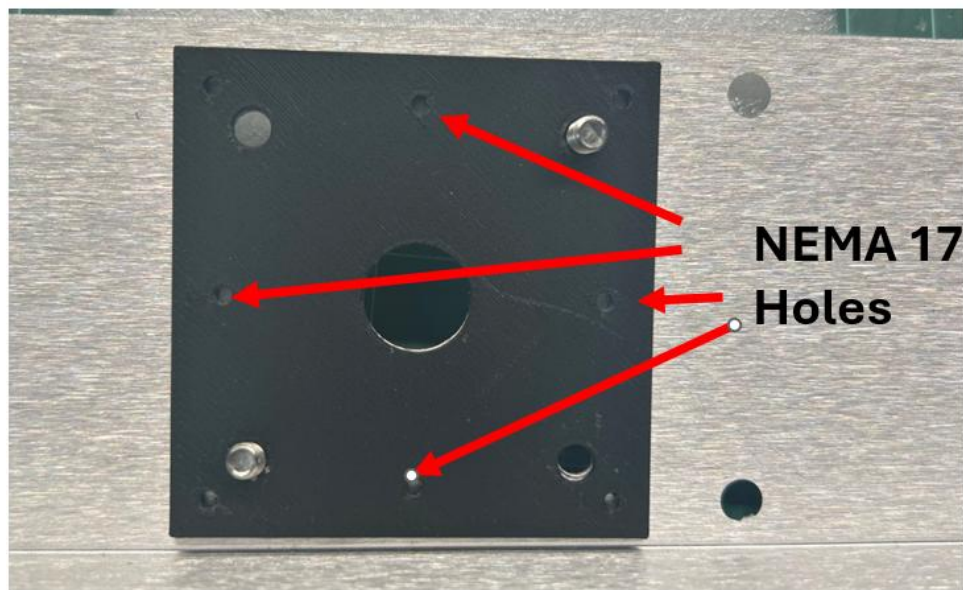
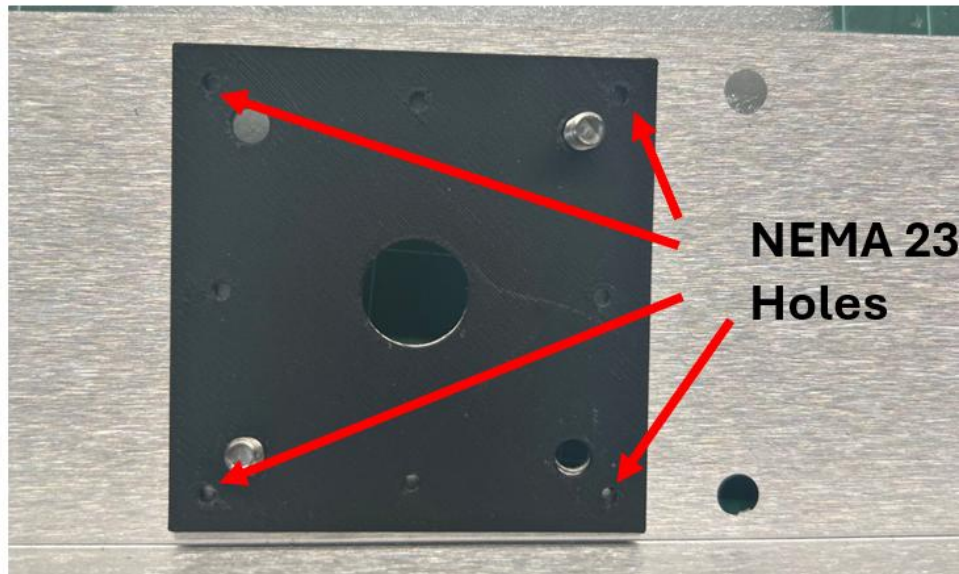

Figure B-3 — NEMA 17 hole locations (HO and N scale motors).
Figure B-4 — NEMA 23 hole locations (O scale motors).
3. With the template held in place, mark the new hole locations through the template using a center punch or a small drill. Mark only the pattern for your motor — NEMA 17 (Figure B-3) or NEMA 23 (Figure B-4).